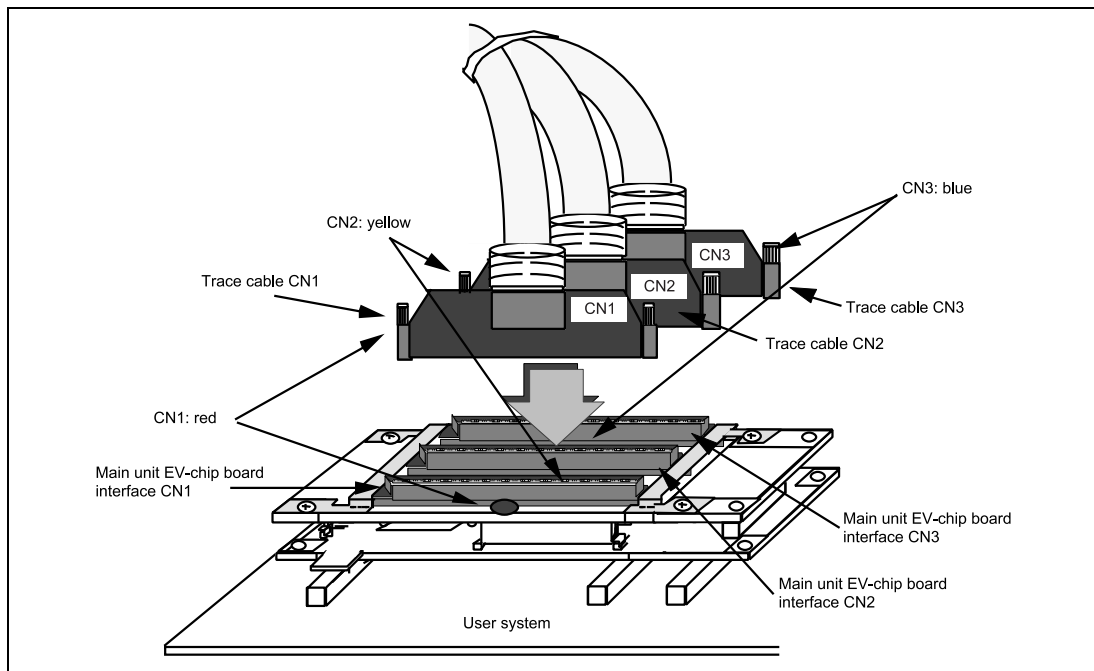

Figure 3.4 Connecting Trace Cables to the Evaluation Chip Board
4. Connect the trace cables to the station to evaluation chip board interface connectors CN1, CN2, and CN3 on the evaluation chip board. Confirm that each trace cable connected to a connector on the E8000 station is also connected to its corresponding station to evaluation chip board interface connector on the evaluation chip board. Connect the cables using the same method as in step 3. Figure 3.4 shows how to connect the trace cables to the evaluation chip board interface connectors.